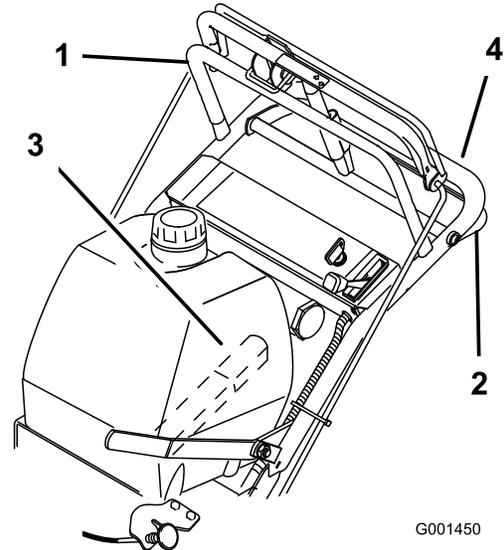
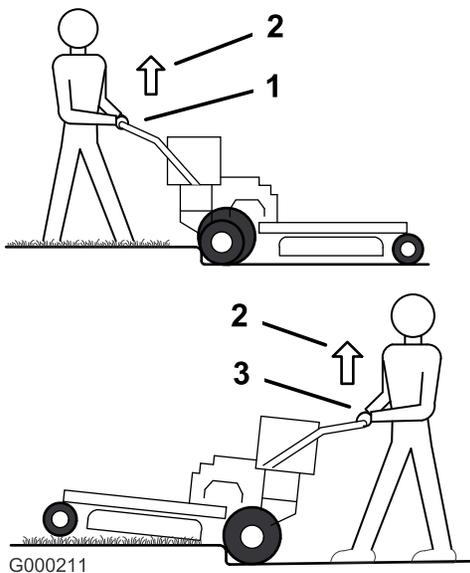
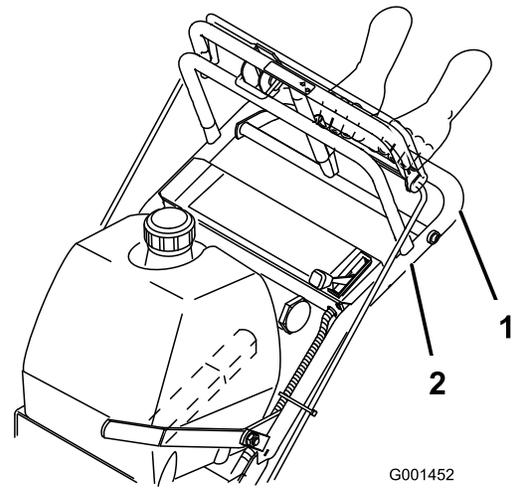

Figure 10
Figure 11
Figure 12
1. To go forward, move the shift lever to a forward gear (Figure 10).
3. Slowly press on the upper control bar to move forward (Figure 10).
To go straight, apply equal pressure to both ends of the upper control bar (Figure 10).
To turn, release pressure on the upper control bar side in the direction you want to turn (Figure 10).
3. Slowly squeeze the lower control bar and lower handle together to move rearward (Figure 10).
3. Drive machine until the castor wheels contact curb (Figure 11).
4. Lift the front of the machine by pushing down on the lower handle (Figure 11).
5. Drive the machine until drive wheels contact the curb (Figure 11).
6. Lower the front of the machine (Figure 11).
7. At the same time engage the lower control bar and lift up on the lower handle to drive over the curb (Figure 10 and Figure 11).
3. Drive the machine until drive wheels contact curb (Figure 11).
4. At the same time engage lower control bar and lift up on the lower handle (Figure 10 and Figure 12).